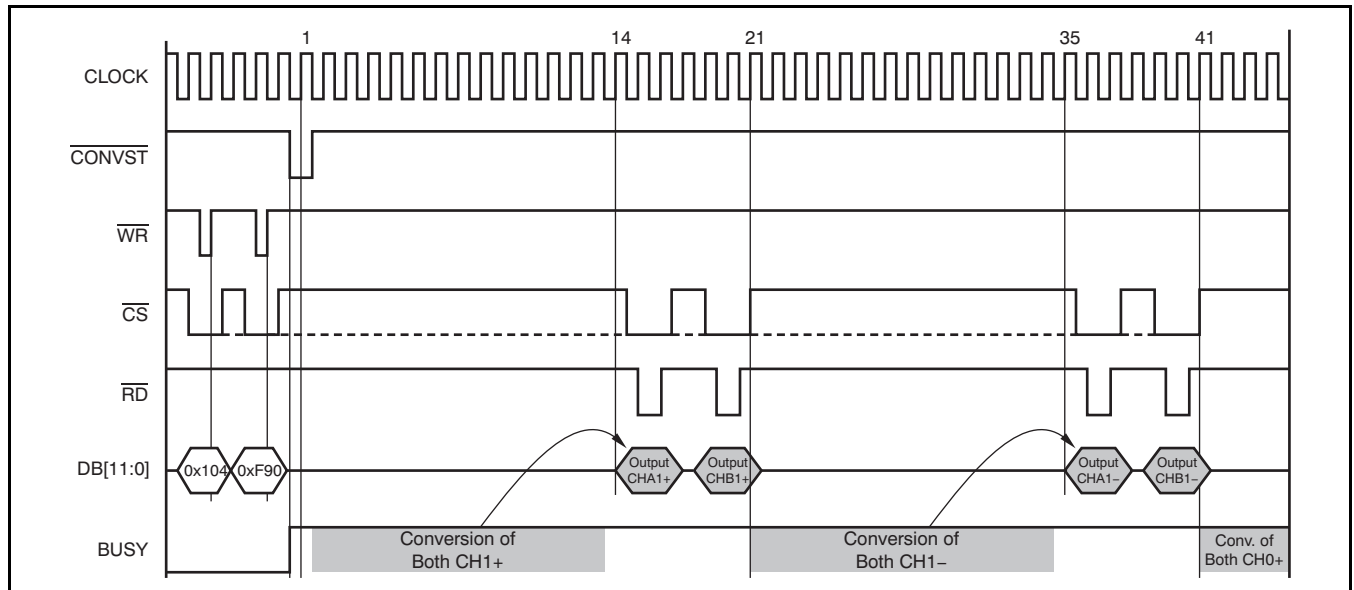

Figure 34. Sequencer Programming Example
A/B data of the second-last channel in the sequence, and so on. Trying to read out more results (2, 4, or 6) than the actual sequence length results in 000h at the output of the converter. Older conversion results are overwritten if all data of a completed sequence have not been read out before issuing a new conversion start. Figure 34 shows an example where the sequencer is set to scan through the pseudo-differential inputs of the ADS7865 beginning with CHx1+, followed by CHx1– and CHx0+, while using a single $\overline{\text{CONVST}}$ and BUSY for the entire sequence. The internal LIFO pointer is reset with every BUSY signal rising edge. Therefore, to ensure proper data retrieval, the sequence results should either be read after completion of the entire sequence conversion or between two consecutive conversions within the sequence as indicated in Figure 34. Other read options may deliver incorrect results.
- Updated Figure 34 20